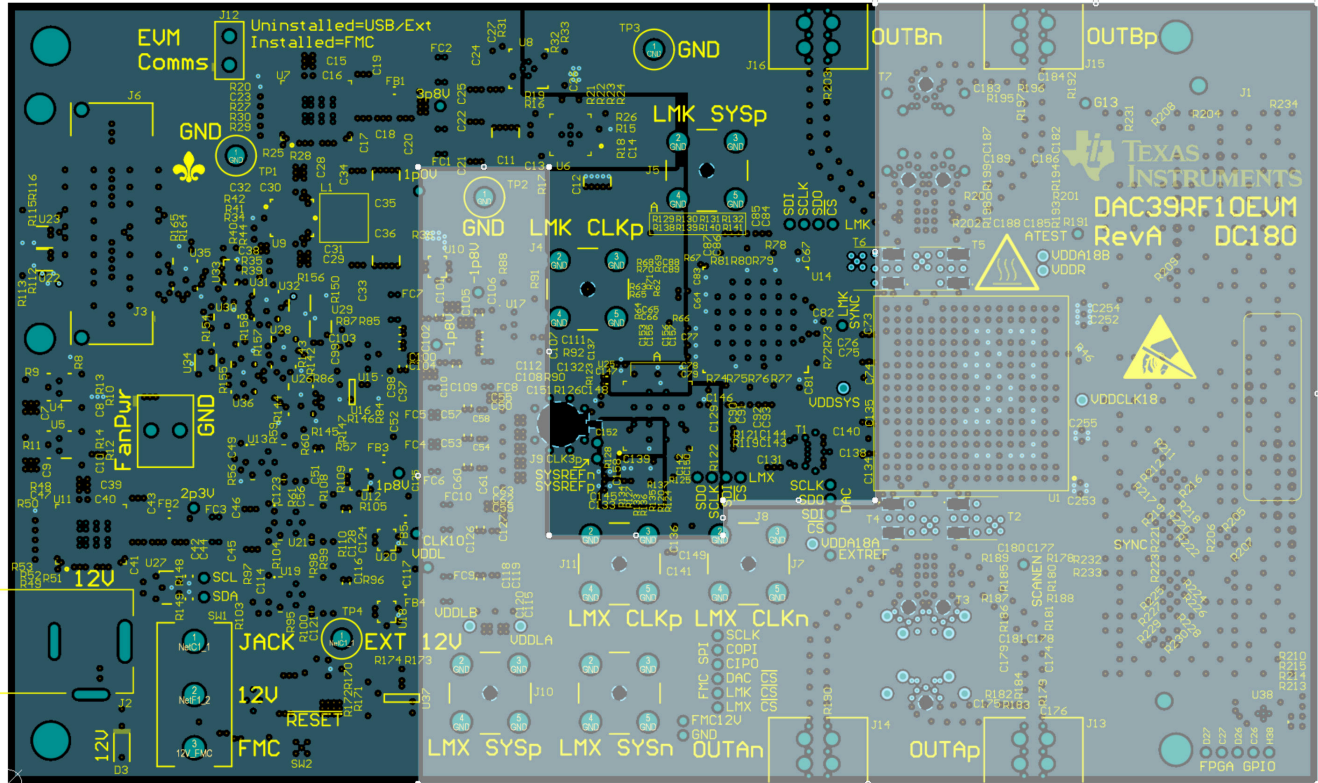

**Figure 9-28. Serdes Bottom Layer Routing with Ground Isolation**
9. Pay particular attention to potential coupling between JESD204x data input routing and the analog output routing. Switching noise from the JESD204x inputs can couple into the analog output traces and show up as wideband noise due to the high bandwidth of the DAC. Route the Serdes JESD204x data inputs on a separate layer, if possible, from the DAC output traces to avoid noise coupling, see Figure 9-27 and Figure 9-28 as examples.